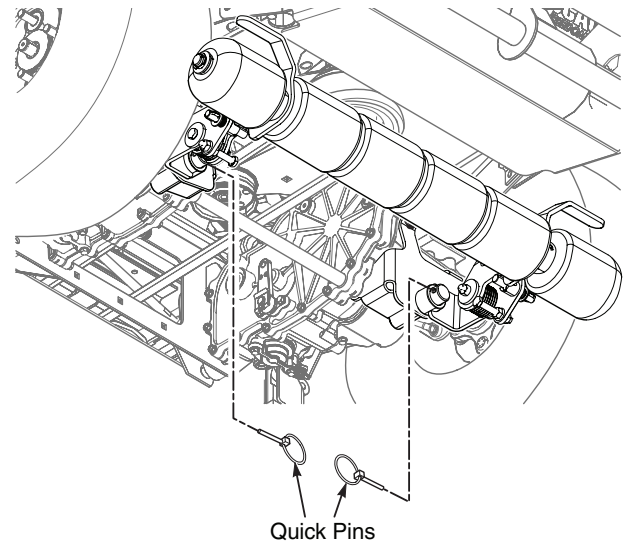

Figure 2-10. Install Quick Pins
9. Secure the Striper Assembly to the machine with the Quick Pins supplied. See Figure 2-10.